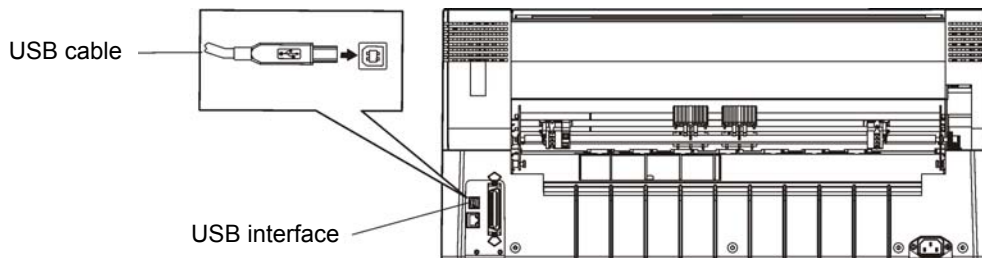

Figure 2-16 Connect to the USB interface
1. Plug the USB cable A end (flat shape) into the computer's USB interface. As shown in Figure 2-16.